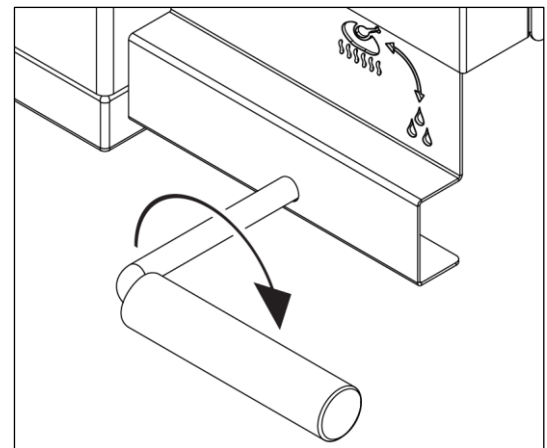

Figure 5-2
6. Rotate the Manual Drain Valve Handle to Clean  as shown in Figure 5-2.